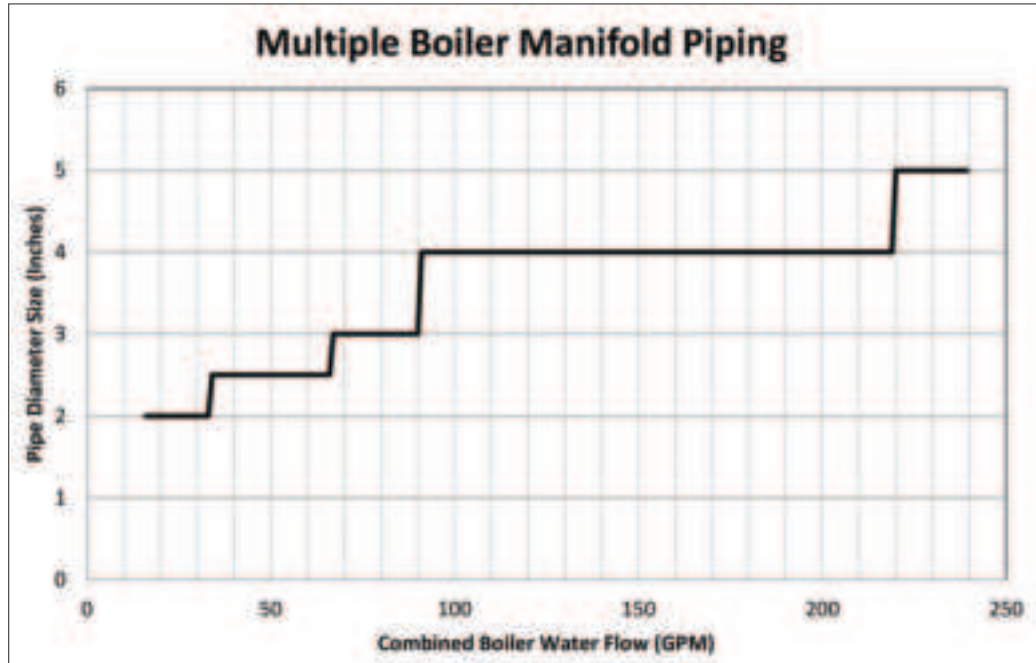

Figure 6 - Multiple Boiler Manifold Piping
8. Reference Figure 6 to determine manifold pipe sizing.